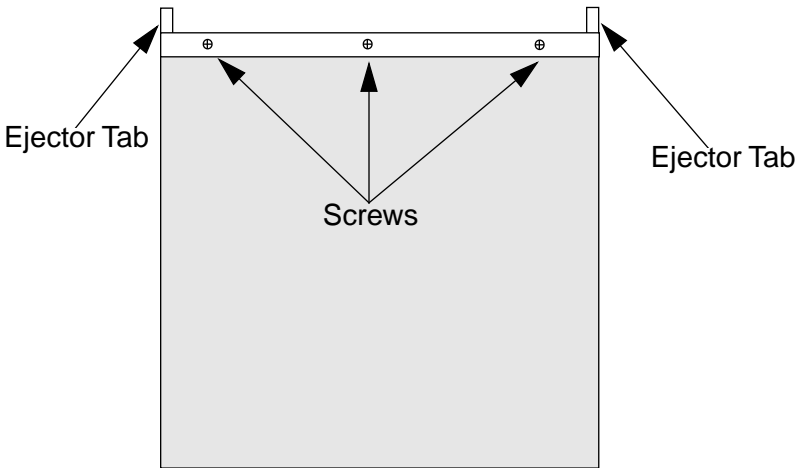

Figure 3-1. Module Bottom View
2. Remove the module faceplate by removing the 3 screws on the bottom of the module. Carefully remove the module faceplate exposing the slot for the FEPIM (see Figure 3-1).